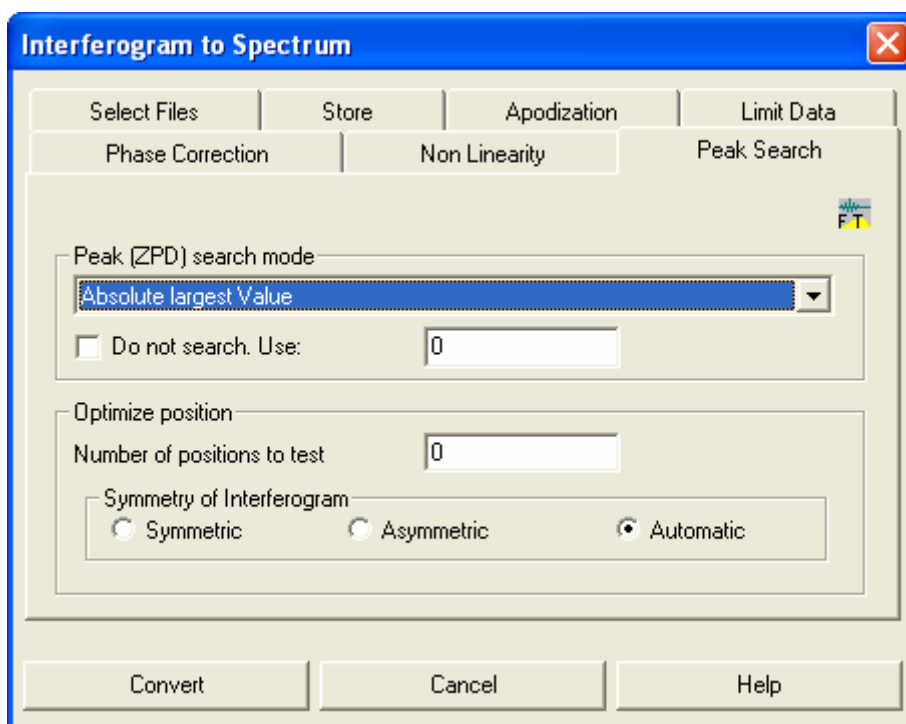

Fig. 22: “Interferogram to Spectrum” dialog window - “Peak Search” page
- On the “Peak search” page, the peak search mode “Absolute largest value” and “Automatic” for the symmetry of the interferogram usually works fine as indicated in fig. 22. However, you can also fix the peak position (ZPD) to a particular value or optimize the position by entering a number larger than 0.